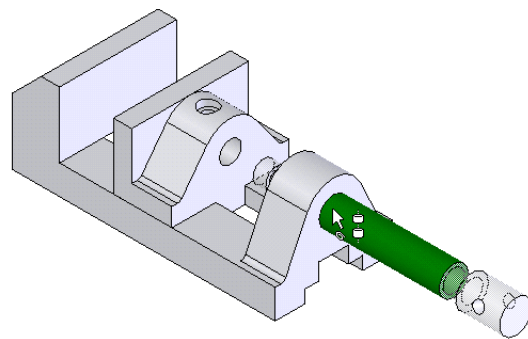

Figure 10-61 Jaw screw being dragged
5. Hold the Jaw Screw close to the bottom end and drag it to the hole in the vice body as shown in Figure 10-61. The symbol of concentric mate will be displayed below the cursor.